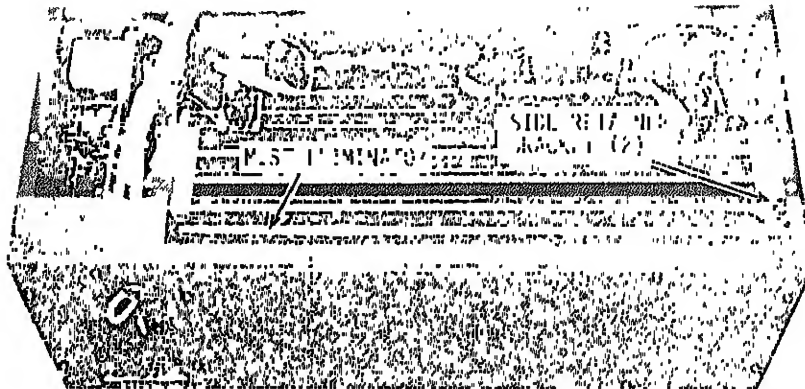

Figure 4-6. Mist eliminator removal and installation
(2) Refer to figure 4-6 and lift out mist eliminator.
(1) Refer to figure 4-6 and install mist eliminator by sliding down into position.